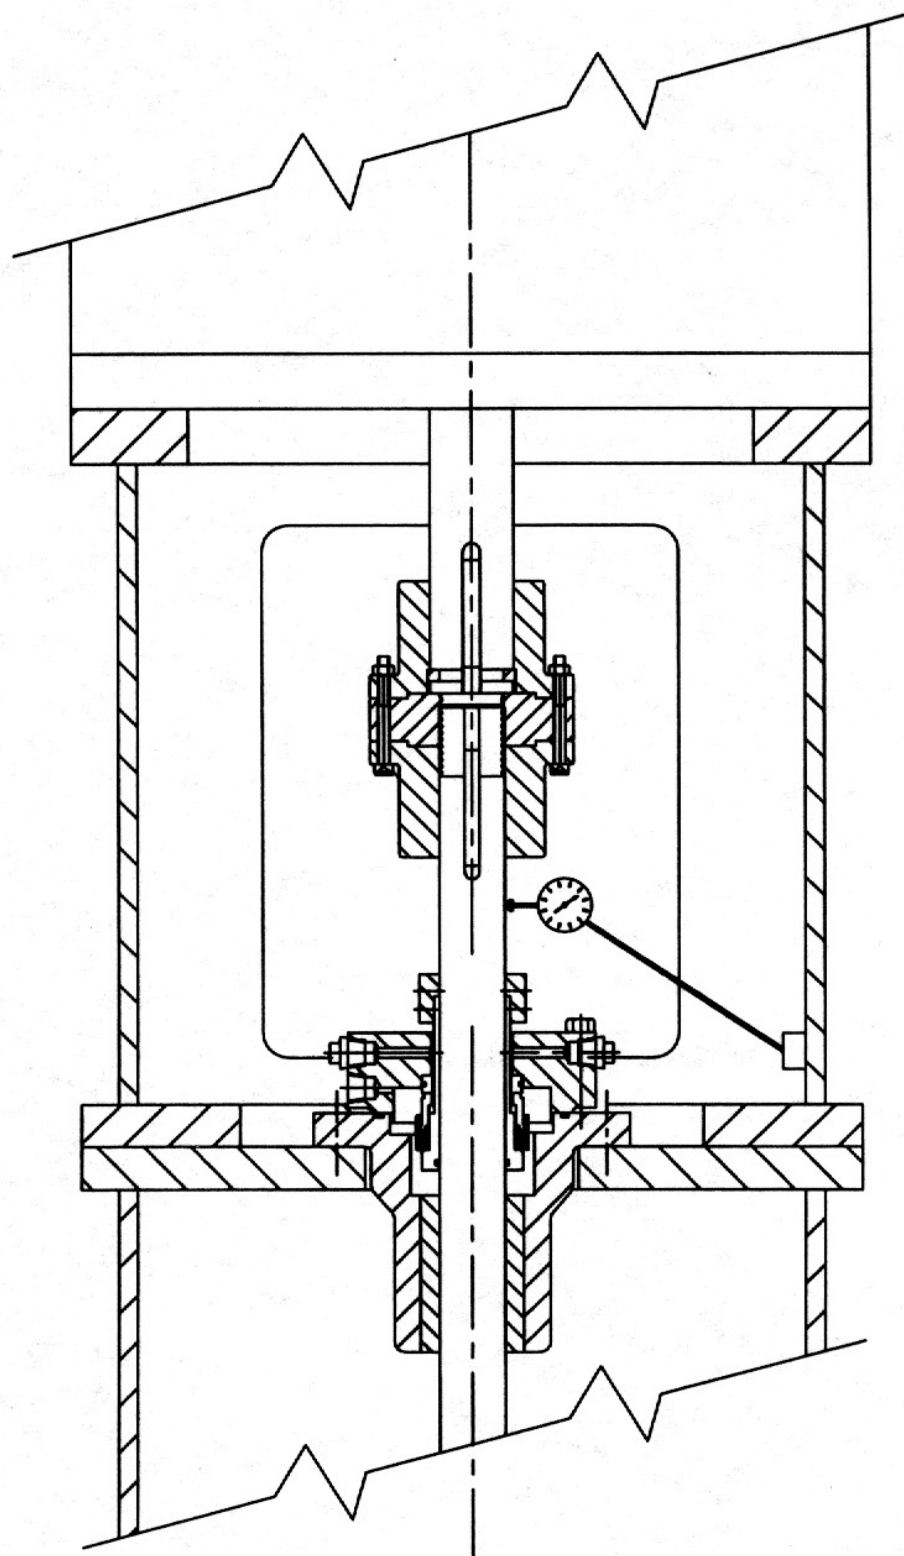

Fig. 11
- D. **Concentricity of Head Shaft** (See Fig. 11). Re-install the mechanical seal if it was removed for the Flatness or Concentricity measurement. Install the coupling assembly and make the impeller adjustment as described in *Installation* section. Attach the base of the dial indicator on the discharge head or driver support. Place the stylus on the shaft between the top of the seal and the bottom of the pump coupling. Rotate the driver shaft slowly 360°. Check that the shaft runout is within 0.004 in. (0.10mm) TIR, or as required by specification.